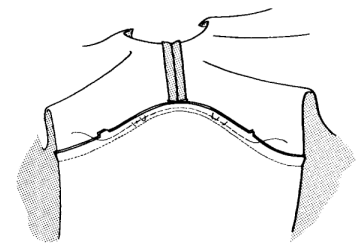

Figure 17
2. With right sides together, match the sleeve to the armhole at the notches and center shoulder marking. If necessary, pull ease-stitching thread to distribute any fullness in the sleeve cap (Figure 17).